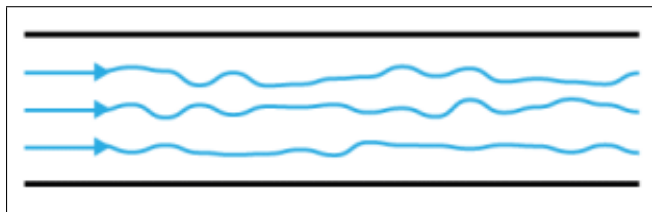

Figure 5.4: Transitional flow.
5.2.3 Transitional (intermediate) (Figure 5.4)